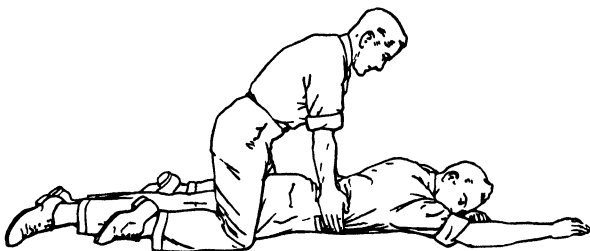

FIG. 30-2. Second position of operator giving artificial respiration.
3. With arms held straight, swing forward slowly so that the weight of your body is gradually brought to bear upon the patient. The shoulder should be directly over the heel of the hand at the end of the forward swing (see Fig. 30-2). Do not bend your elbows. This operation should take about 2 sec.